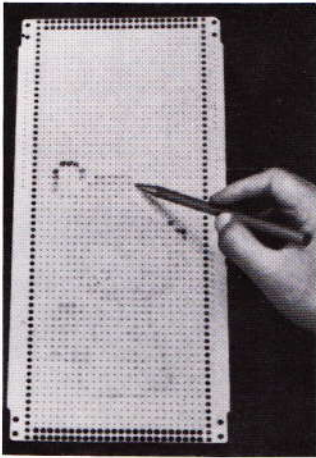

Fig. 206/A
2. Transfer the drawing from the paper onto the card by blackening the corresponding squares with a pencil. Use the vertical numbers on the right of the card as a guide (fig. 206/A).